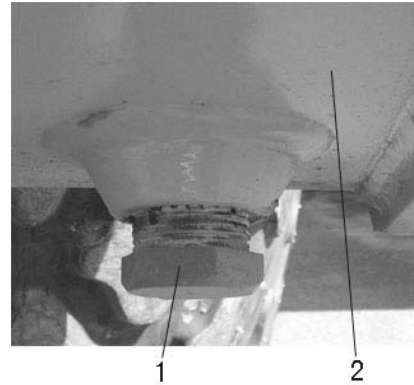

Figure 3-24
3.4.5.2 Clean condensation and sediments in the fuel tank (figure 3-24)